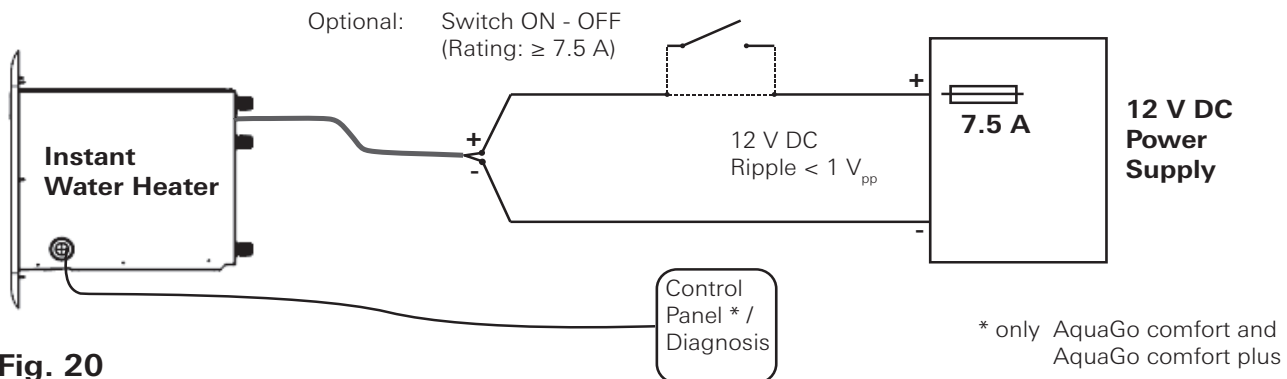

Fig. 20
- Connect the hose for cold water (1) at the bottom of the appliance.
- Connect the hose for hot water (2) at the top of the appliance.
- **Model AquaGo comfort plus only:** Connect the hose for the circulation line (3).
- Connect the electrical lines with the proper polarity to the 12 V DC power supply (refer to “Electrical connection for all models” on page 31). Install a 7.5 A fuse exclusively dedicated to the appliance (see Fig. 20).